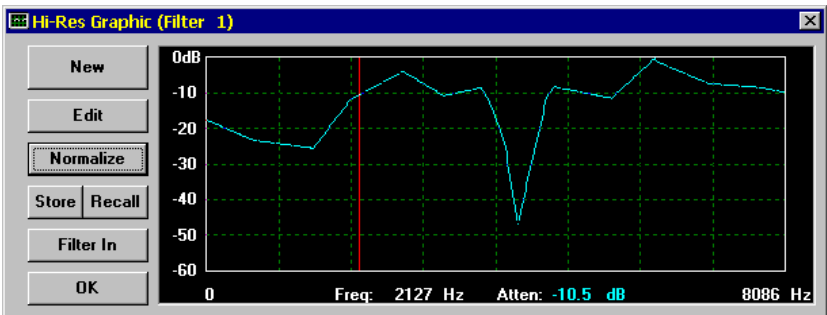

Figure 4-51 Normalized Hi-Res Graphic Filter
10. Normalizing the filter places the highest point on the filter curve at 0 dB. Doing so minimizes loss in the filter and preserves system dynamic range. Now normalize the filter curve to 0dB by clicking the **Normalize** button. You should see the mouse cursor change to the "hourglass" shape for a few seconds; when the normalization calculations are complete, the filter shape should appear as follows (Figure 4-51):